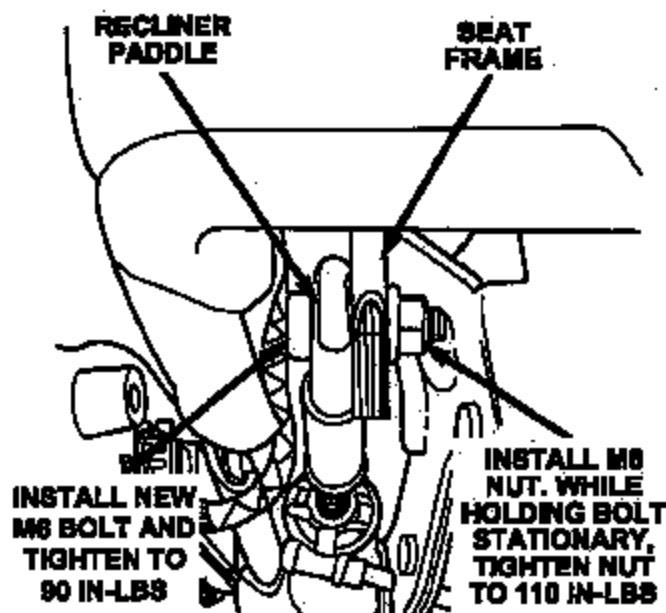

Figure 8
12. Install one of the supplied bolts into the hole in the outboard recliner paddle (Figure 8) and then into the hole in the seat back frame. Tighten the bolt (without the nut attached) to 90 in-lbs (10.2 N·m).
13. Install one of the supplied nuts onto the bolt (Figure 8). While holding the bolt stationary, tighten the nut to 110 in-lbs (12.5 N·m).
14. Install the other supplied bolt into the hole in the inboard recliner paddle (Figure 8) and then into the hole in the seat back frame. Tighten the bolt (without the nut attached) to 90 in-lbs (10.2 N·m).
15. Install the remaining nut onto the bolt (Figure 8). While holding the bolt stationary, tighten the nut to 110 in-lbs (12.5 N·m).
19. Install the two (2) front driver's seat anchor bolts. Tighten the bolts to 45 ft-lbs (61 N·m).
21. Install the two (2) rear driver's seat anchor bolts. Tighten the bolts to 45 ft-lbs (61 N·m).